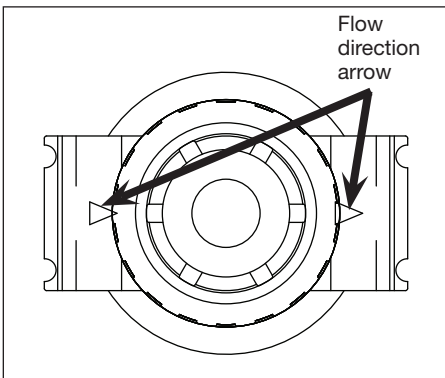

Figure 2 - Detail showing location of flow direction arrow
1. Locate the air flow direction arrow (See Figure 2, detail). This arrow shows the direction of the air flow.
4. Verify the arrow points in the direction of the air flow (See Figure 2.)